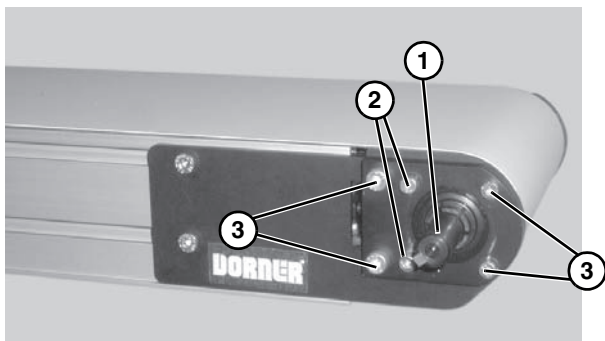

Figure 5
3. Locate drive output shaft (**Figure 5, item 1**). Remove two (2) M8 screws (**Figure 5, item 2**) and four (4) M6 screws (**Figure 5, item 3**) and discard.